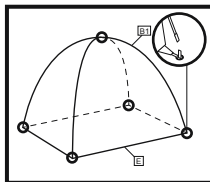

FIG2
3. Stand the inner tent<E> up and push the ends of the poles<B1> into the ground sleeves (which are on the each corner of the inner tent<E>).(FIG2)
4. Fasten the roof of the inner tent<E> onto the pole junction with the sewn-on tie.(FIG2)
7. Push the ends of the pole<B2> into the ground sleeves(which are on the awning of the inner tent<A>).(FIG2)